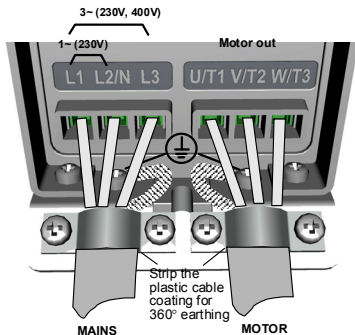
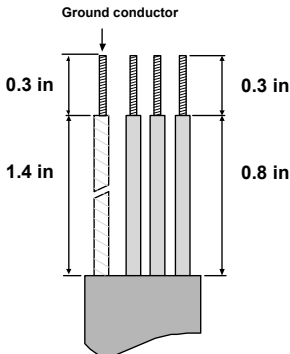

Figure 4.4: SmartVFD COMPACT power connections, MI1
Figure 4.9: Stripping of cables
4	Connecting the cables: <ul style="list-style-type: none"> <li>• Strip the motor and mains cables as advised in Figure 4.9.</li> <li>• Connect the mains, motor and control cables into their respective terminals, see Figures 4.4 - 4.8.</li> <li>• Note the tightening torques of power cables and control cables given in page 18 and page 20.</li> <li>• For information on cable installation according to UL regulations see Chapter 4.2.6 .</li> <li>• Make sure that the control cable wires do not come in contact with the electronic components of the unit</li> <li>• If an external brake resistor (option) is used, connect its cable to the appropriate terminal.</li> <li>• Check the connection of the ground cable to the motor and the frequency converter terminals marked with</li> <li>• Connect the separate shield of the motor cable to the ground plate of the frequency converter, motor and the supply centre</li> </ul>
**Note!** Strip also the plastic cover of the cables for 360 degree grounding. See Figures 4.4, 4.5 and 4.8.